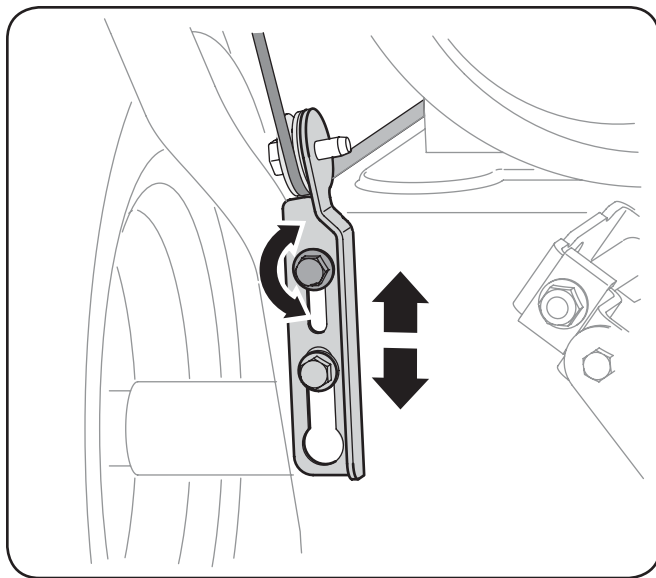

Figure 3-31
4. Allow the auger to remain engaged for approximately ten (10) seconds before releasing the auger control. Repeat this several times.
8. Position the bracket upward to provide more slack (or downward to increase cable tension). See Fig. 3-31.